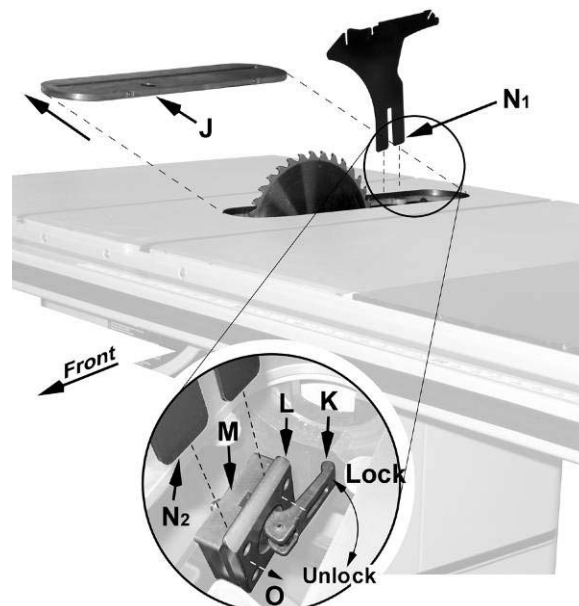

Figure 9
3. Press the arbor lock (D) in the direction shown by the arrow to engage it into the slot in the arbor (C). At the same time remove the arbor nut (A); loosen with a 32mm wrench if necessary.
4. Remove the collar (B).
5. Install the blade, making sure the cutting teeth at the top of the blade point toward the front of the saw. If unsure, refer to Figure 9 for the proper blade orientation.
6. Replace the collar (B) and arbor nut (A).
7. Engage the arbor lock (D) and tighten the nut (A) with a 32mm wrench.
Referring to Figure 9:
2. Remove the table insert (J).
3. Located inside the table and accessible through the insert opening (Figure 9 inset), place the quick-release clamp lock handle (K) in the *unlock* position.
4. The *floating clamp block* (L) is spring loaded and will move away (O) from the *fixed block* (M), leaving a gap.
5. Insert the bottom of the *riving knife* (N₁, N₂) all the way into the gap between the *clamp blocks* (L, M), then lock the handle (K).
6. Replace the *insert* (J) back on the table. The saw blade and riving knife should protrude through the slot in the insert.
The clamping blocks (L, M, Figure 9) are adjusted at the factory and no further adjustment of the blade guard and riving knife assembly should be necessary. However, **proper alignment is very important.** Before operating the table saw, read the *Riving Knife Adjustment* section (page 16) to verify and follow the adjustment procedure if necessary.
Figure 9 repeated